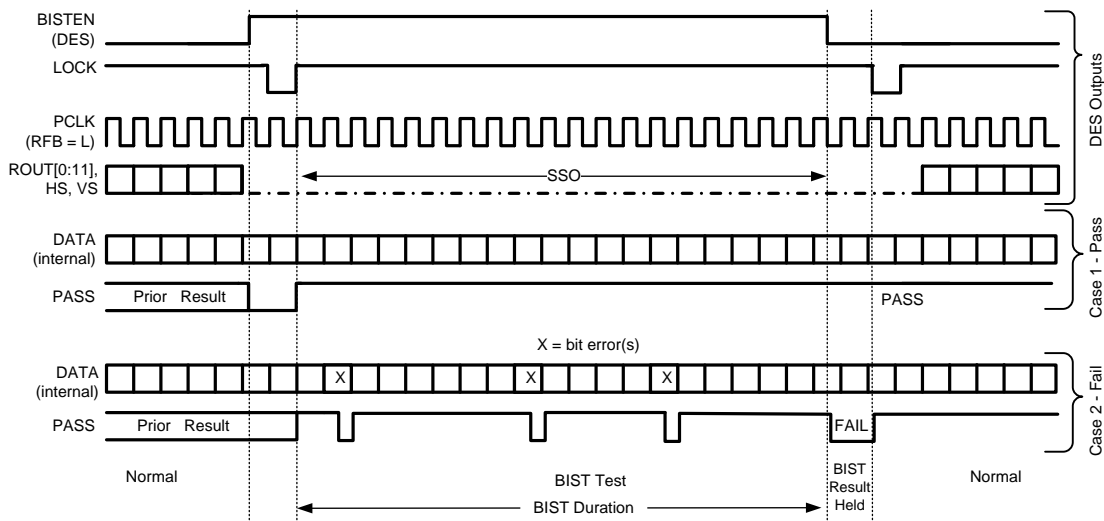

Figure 31. BIST Timing Diagram
**Step 4.** The link returns to normal operation after the deserializer BISTEN pin is low. Figure 31 shows the waveform diagram of a typical BIST test for two cases. Case 1 is error free, and Case 2 shows one with multiple errors. In most cases, it is difficult to generate errors due to the robustness of the link (differential data transmission etc.), thus they may be introduced by greatly extending the cable length, faulting the interconnect, or by reducing signal condition enhancements (Rx equalization).